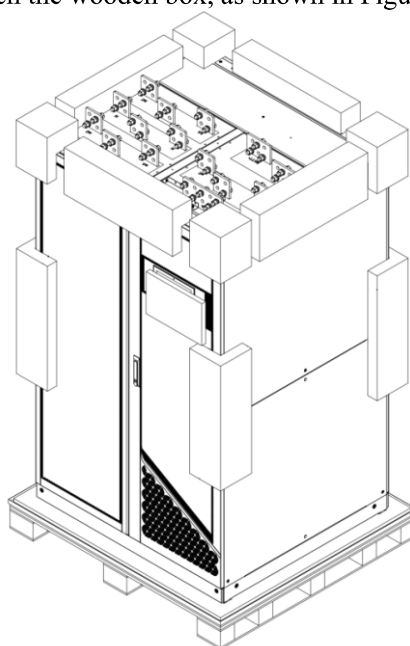

Figure 3-27 Open the wooden box
Step 3: Pry open the buckles to open the wooden box, as shown in Figure 3-27;